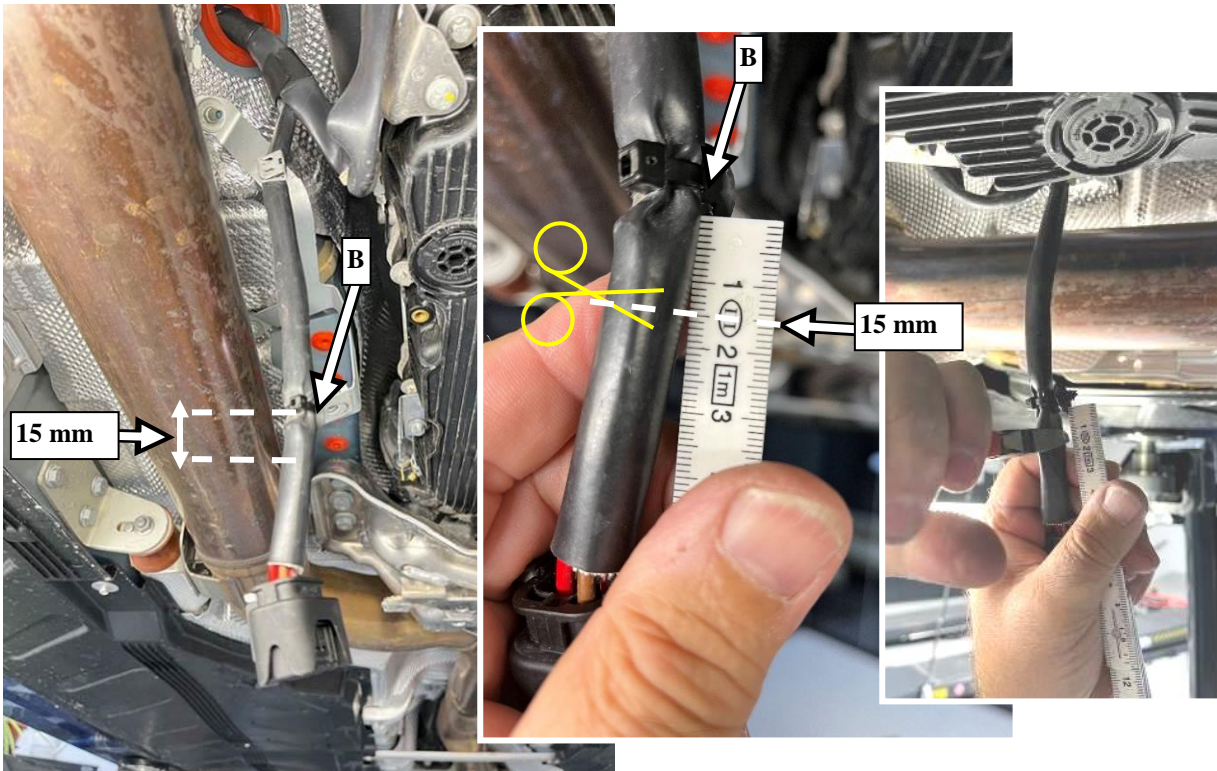

Figure 4
4. Cut the vehicle side wiring harness 15 mm below the cable tie (Figure 4, B) and then remove the cable tie installed above it, including the fastening clip (Figure 4, B).